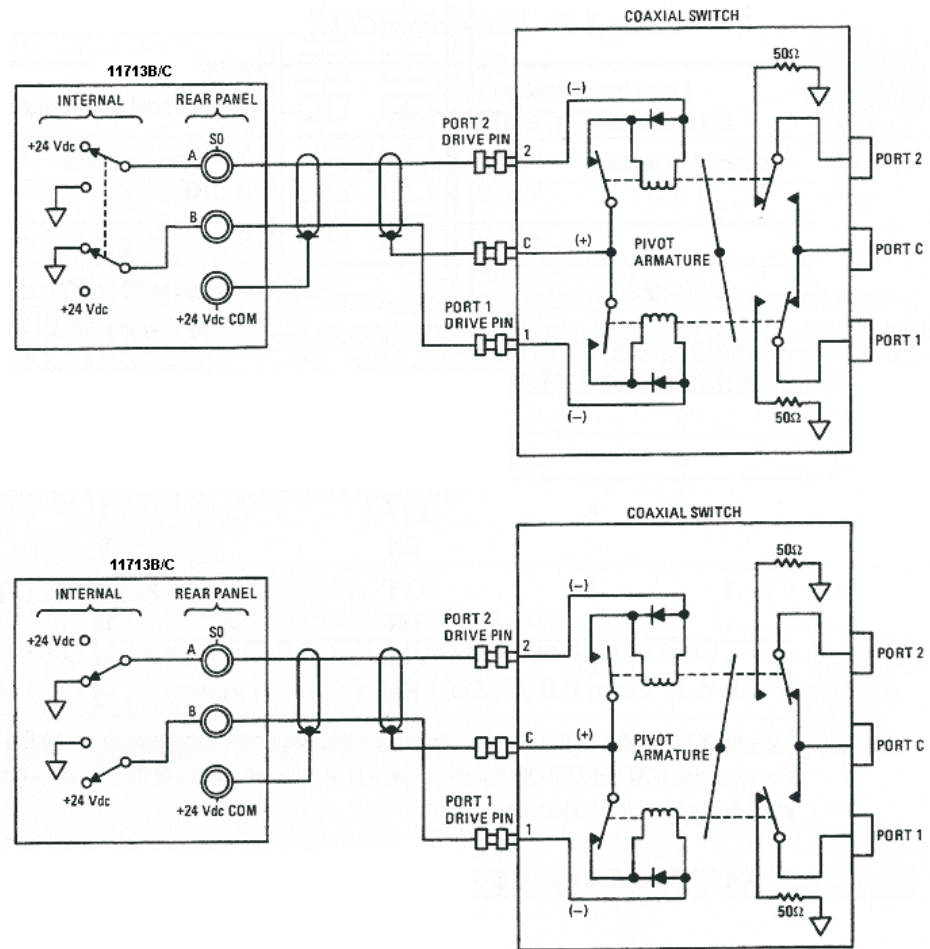

Figure 9 Typical connection for 8762 and 8765 series coaxial switches
- Figure 9 below shows the rear panel connections to S0 outputs and the corresponding switch positions reflected by pushbutton indicators.